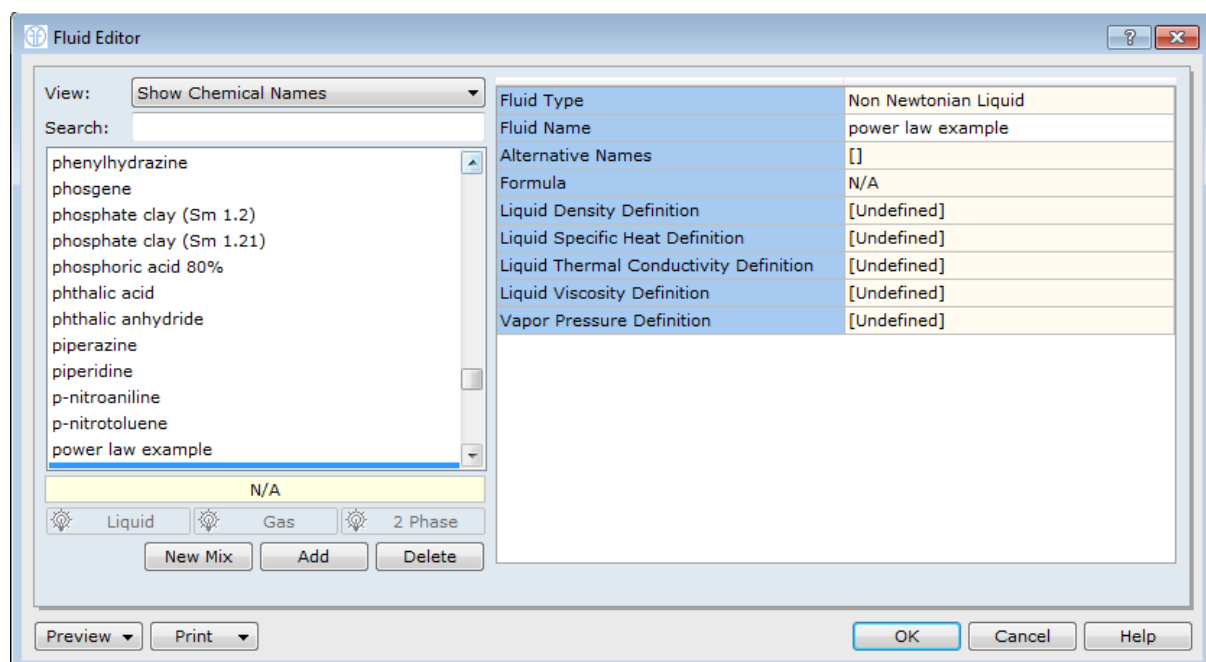

Figure 6.1.1: Fluid Editor.
Step 1: The first step is to add the new fluid to the fluids database. Select; Database | Fluids | Add. We will now be presented with a dialogue box asking us to give our new fluid a unique name. Enter the name *power law example* and select OK. A new dialogue will appear titled *Fluid Editor* (Figure 6.1.1). Select *Non Newtonian Liquid* as the *Fluid Type* on the top right hand corner. You should now have a dialogue which matches that shown in Figure 6.1.1.